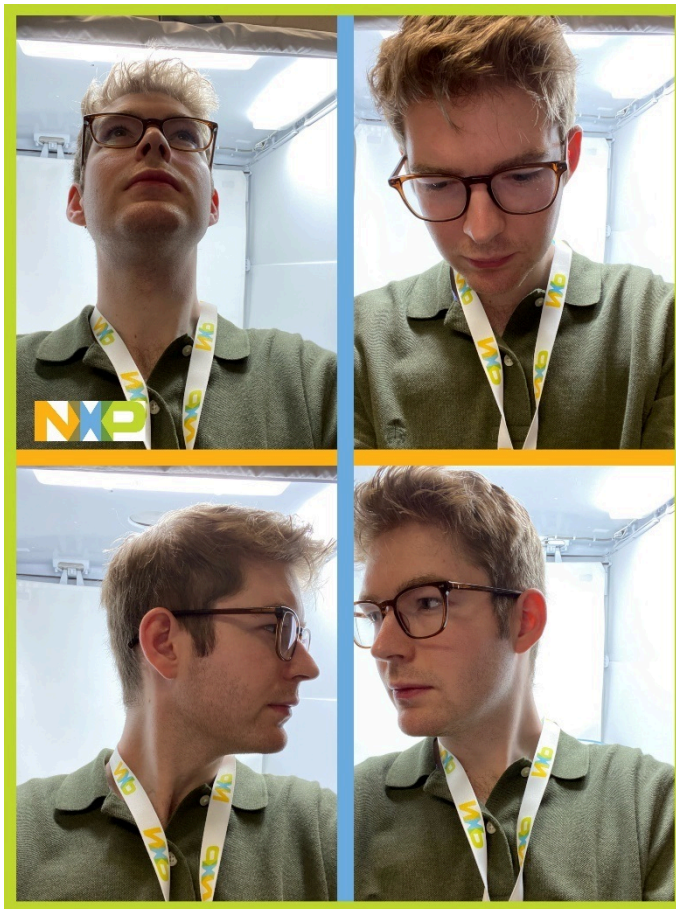

Figure 44. Adjusting face
- Move slowly from left to right and up to down to ensure the proper face angle, as shown in Figure 44